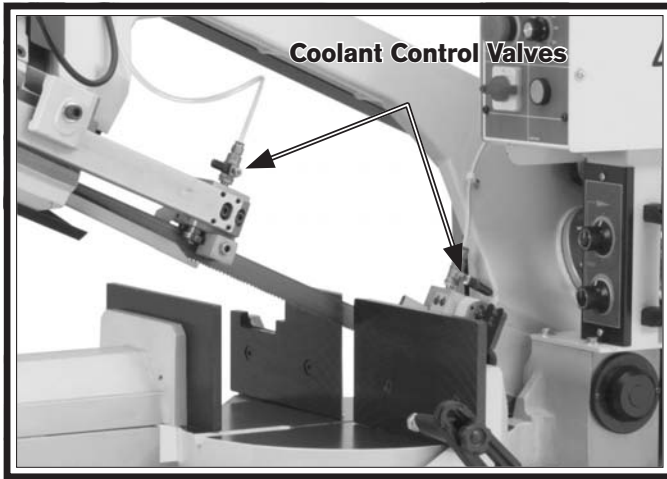

**Figure 34. Filter screen and hose.**
2. Place the filter screen and drain tube in the reservoir as shown in **Figure 34**.